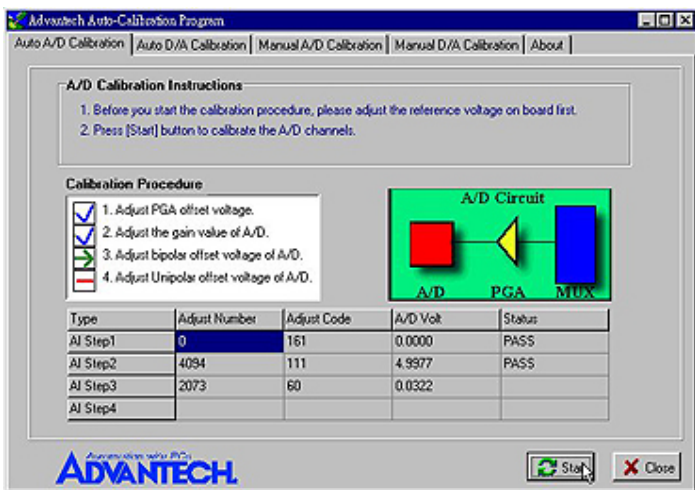

Figure 6-7: A/D Calibration Procedure 3
Step 7: The third A/D calibration procedure is enabled (Fig. 6-7)